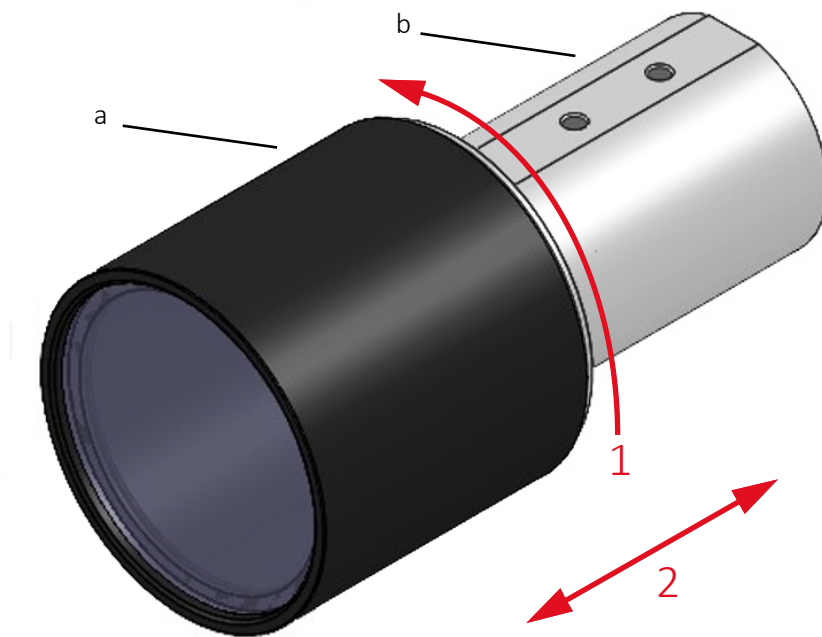

Figure 4: Separating the housing tubes from each other
8. Holding the Camera Tube (b) with one hand, rotate the Lens Tube (a) counterclockwise until the tubes disengage. See Figure 4.